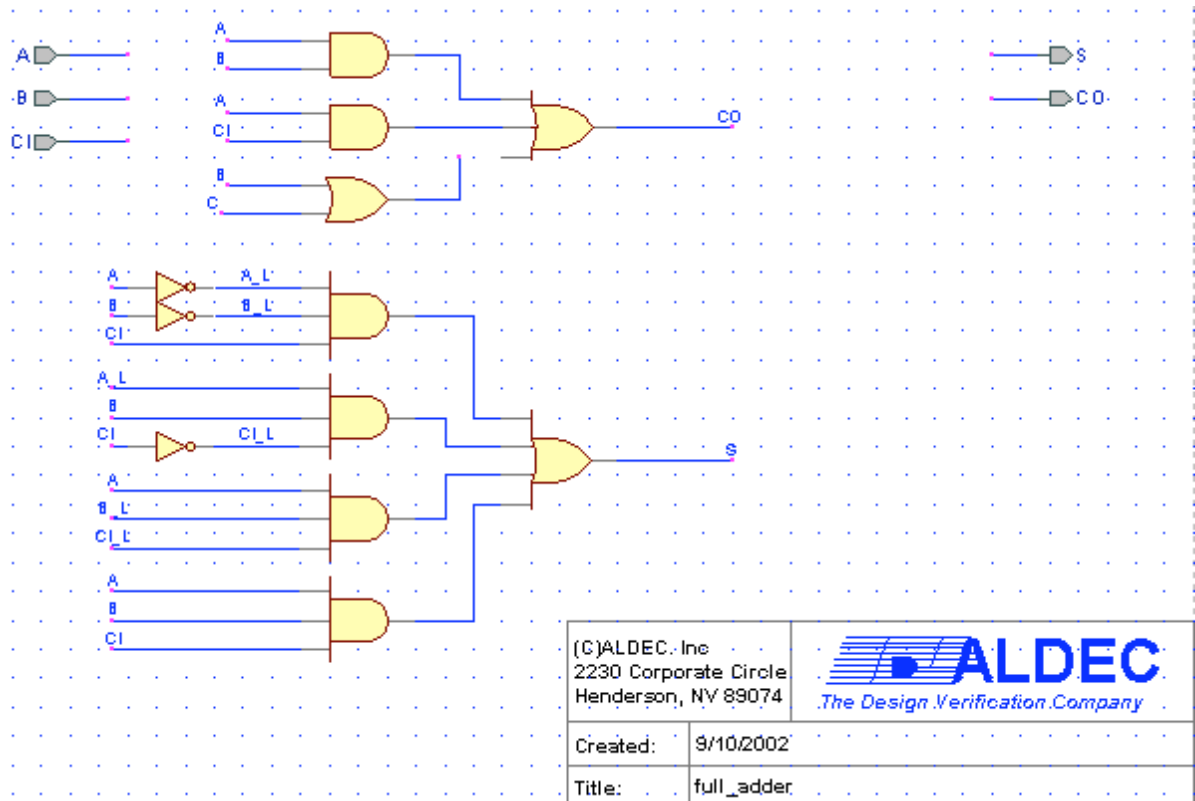

Figure 43
We will walk through a simple, yet common, scenario with a schematic that contains errors and warnings. Some of these problems can be pinpointed and solved by simply running a check diagram and reviewing the DRC. However, the DRC cannot find and report your logic errors. What do you do if you have checked your design, compiled successfully, and when you run your simulation, your results are flawed? The techniques below will show you how to use the tools provided by Active-HDL to trouble-shoot your design, and fix some of the most common mistakes. We used Figure 43 in the following steps to demonstrate the debugging process*.
1. First, we saved, and checked our design. When checking the schematic shown in Figure 43, Active-HDL generated the DRC report shown below.